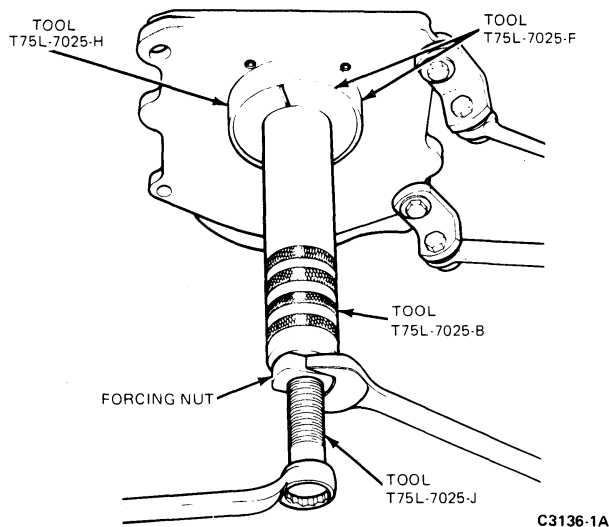

FIG. 6 Removing Output Shaft Bearing
7. Install tool on the output shaft and over the output shaft bearing (Fig. 6). Remove the output shaft bearing and remove bearing spacer.